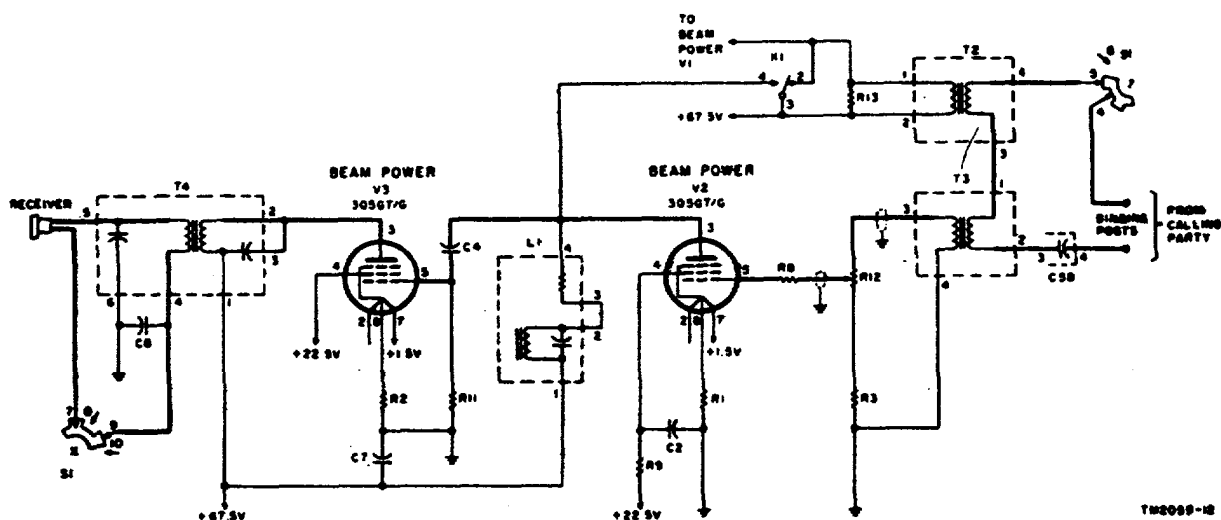

Figure 11. Receiving circuit with amplification, simplified schematic diagram.
40. Receiving Circuit With Amplification (fig. 11)